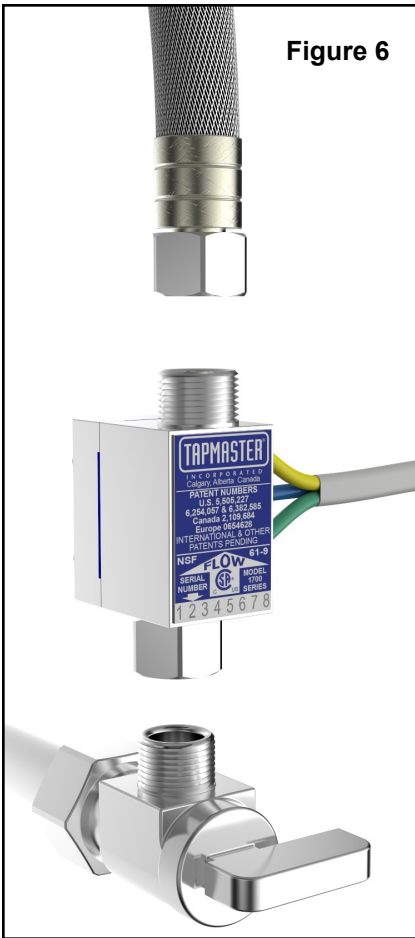

Figure 6
**STEP #3** - Prior to installing the valve blocks, open the shut-off valves momentarily to flush out any debris in the water lines. Large pieces of water borne debris will be trapped by the filter/screen in the valve blocks and may reduce water flow or cause noisy operation. Place the valve block into position as in **Figure 6**. Finger tighten the compression nuts until both valve blocks are in position. Be sure the plastic control tubing and fittings are not damaged in any manner.